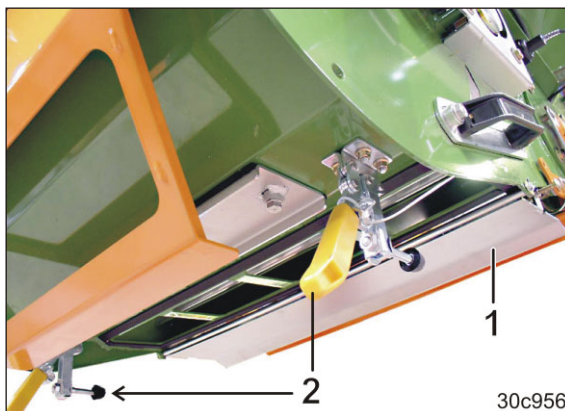

Fig. 239
2. Open the bottom flap (Fig. 239/1).
The bottom flap is secured with quick-release clamps (Fig. 239/2).